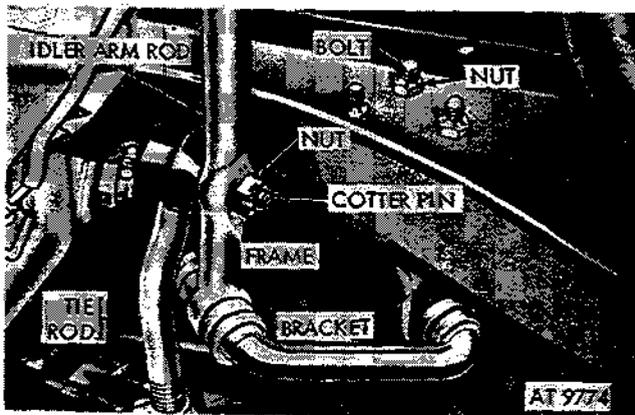

Figure 2-353. Remove right tie rod from idler arm rod.
(1) Remove three bolts and nuts securing idler arm bracket to frame (see fig. 2-353).
(3) Remove cotter pin and nut securing right tie rod to idler arm rod (fig. 2-353). Remove tie-rod ball stud from idler arm rod.
(4) Remove three nuts and bolts securing idler arm bracket to frame (fig. 2-353).
(5) Unscrew (clockwise) idler arm bracket from idler arm. Unscrew (clockwise) idler arm from idler arm rod (M151, M151A1, M151A1C and M718 only) (para 2-163).
(6) Remove idler arm rod (M151, M151A1, M151A1C and M718) or link and idler assembly (M151A2, M825, and M718A1).